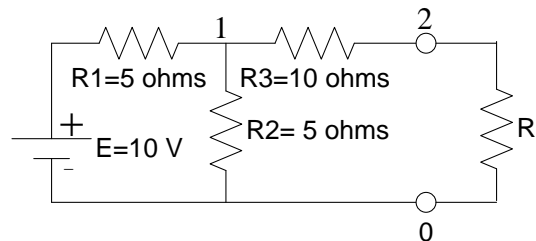

Figure 1. Example circuit.
3. Using PSpice, simulate the circuit of Figure 1 and determine  $V_L$  and  $I_L$ . Simulate the circuit of Figure 2 and determine  $V_{OC}$ . For this purpose, connect a 0A current source between nodes  $a$  and  $b$ . Simulate the circuit of Figure 3 and determine  $I_{SC}$ . For this purpose, connect a 0V voltage source between nodes  $a$  and  $b$ . Determine the values of  $E_{th}$  and  $R_{th}$ . Simulate the circuit of Figure 4 and determine  $V_L$  and  $I_L$ . Verify the Thevenin's theorem from simulated data.
1. Theoretically calculate the value of  $R_L$  for maximum power transfer in the circuit of Figure 1.
2. Theoretically calculate the node voltages  $V(1)$  and  $V(2)$  in the circuit of Figure 1. Also calculate the current  $I(R3)$  passing through the resistance  $R3$ .
1. Draw the circuit of Figure 1 (except the load resistance  $R_L$ ) in Schematics and simulate the circuit to determine the open circuit voltage  $V_{oc}$  between nodes 2 and 0. For this purpose, connect a 0A current source between nodes 2 and 0.